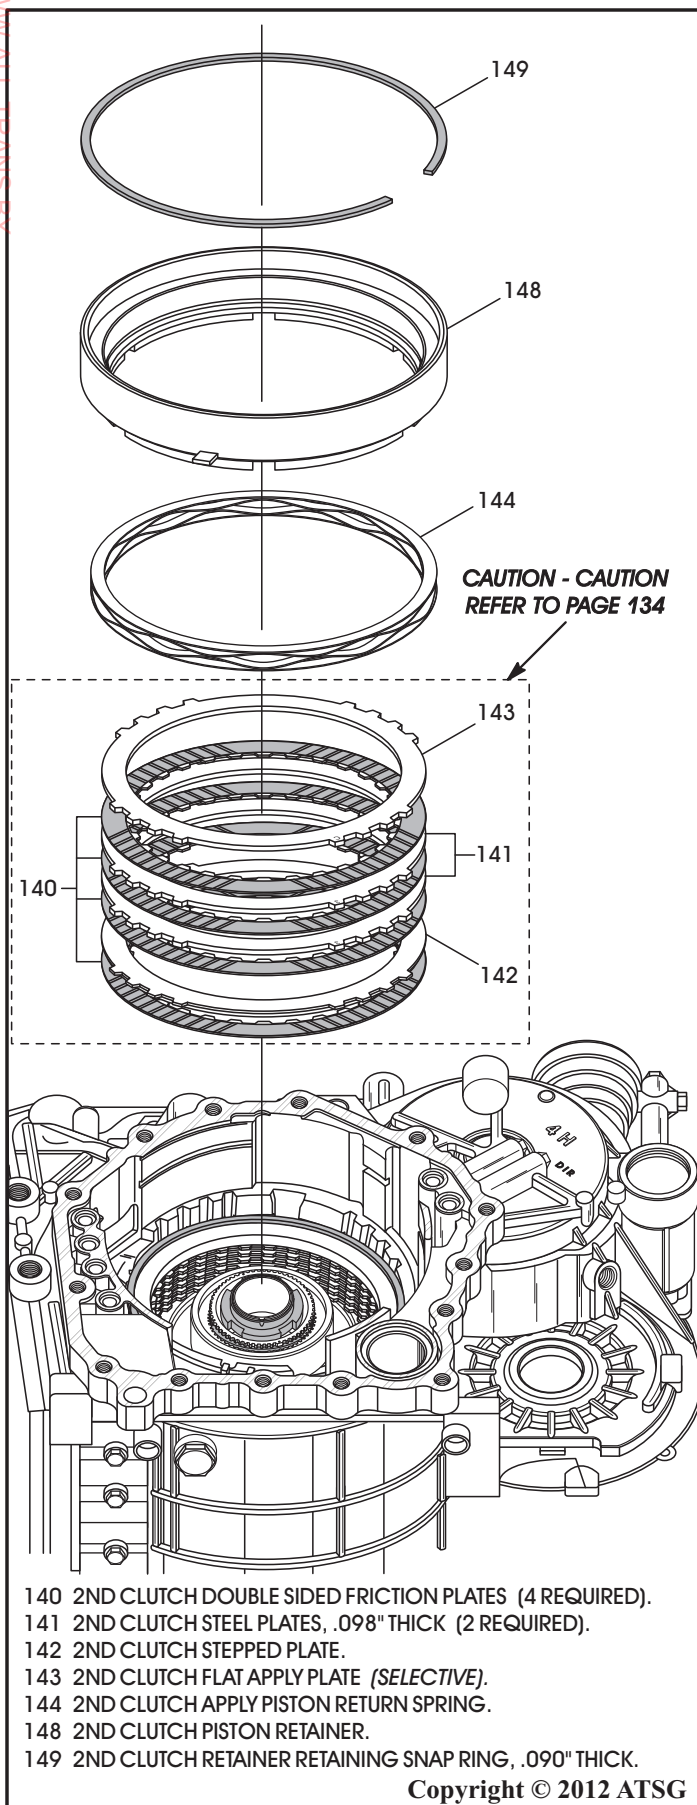

Figure 249
25. Install second clutch plates, beginning with a friction, followed by the stepped plate with the step facing down, followed by frictions and steels, and finally the selective plate, piston retainer and snap ring. (See Figure 249).
Note: Figure 249 shows the Mitsubishi second clutch stack. Hyundai and Kia have a variety of different second clutch stacks, including a "partial" single-sided clutch stack and all of them are illustrated on Page 134.
29. Now, remove the complete 2nd clutch pack using Figure 249, as a guide.